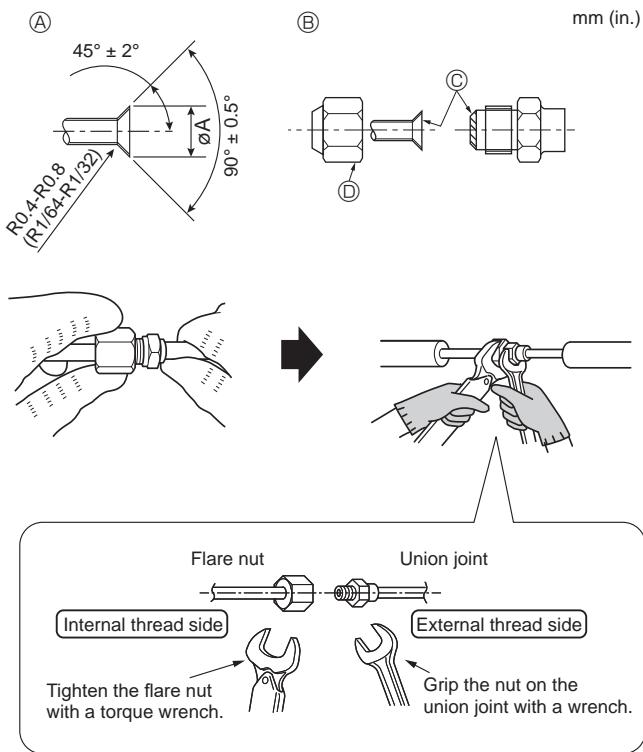

Fig. 4-2
4.2. Connecting pipes (Fig. 4-2)
4.3. Refrigerant piping (Fig. 4-2)